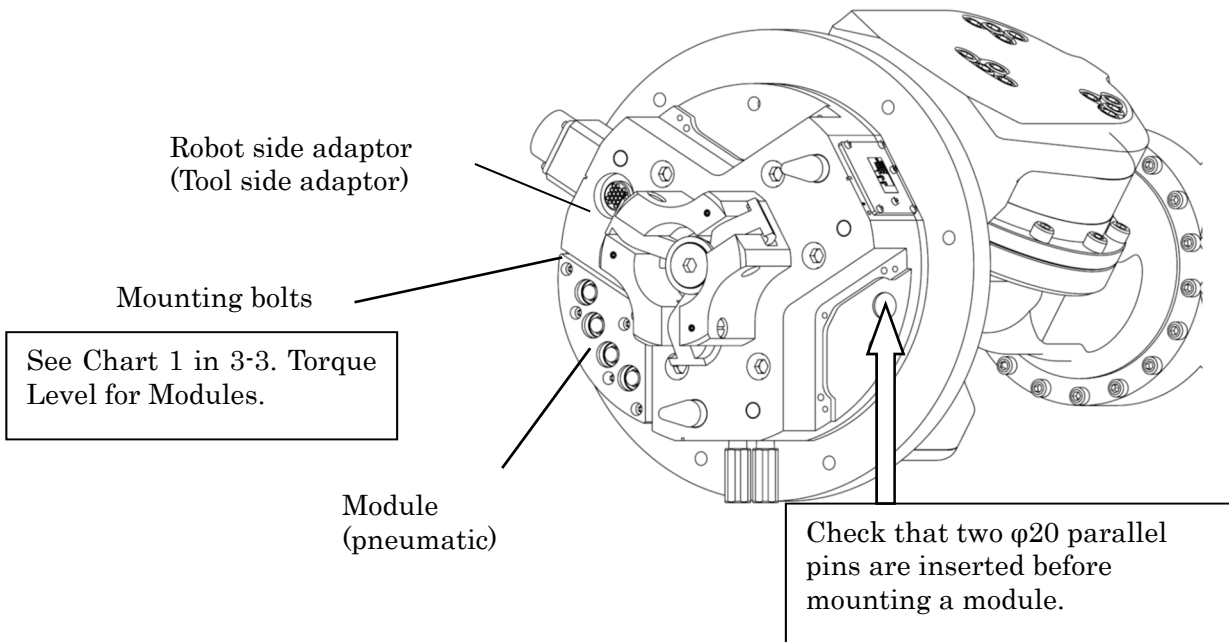

Fig. 11. Module mounting
(1) Remove the cable coating so as to make it L-lag (a) + 2mm. (See Fig. 11.)